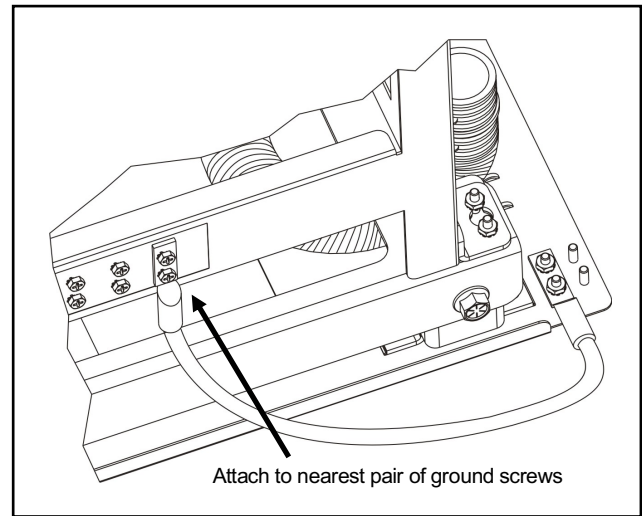

Figure 6. Ground strap attachment
- ① Locate the included ground strap and two of the #10-32 hex nuts. Referring to Figure 6, fasten one of strap's the dual-hole connectors to the **nearest pair of ground bus screws** on the wall rack, using screws supplied with the wall rack.
- ② Fasten the other end of the ground strap to the grounding studs on the SOA-5U frame with both hex nuts. Ground studs are located on both the top and bottom of the frame, accommodating either orientation of the wall rack ground bus. **Use the ground studs on the SOA-5U framed that are nearest to the ground bus of the wall rack.** This provides the proper amount of slack in the ground cable, allowing the swing-out mechanism to operate correctly.
- ③ Install a dual ground lug (customer provided) with holes on 5/8" centers to the adjacent ground studs on the SOA-5U, use two of the included #10-32 hex nuts to fasten the lug securely.
- ④ Connect a ground wire of appropriate gauge to the ground lug and attach the other end of the wire to a bonded ground point, per local procedures for network equipment.
- ① Use the SOA-5U tie-down points to hold equipment cables in place with tie-downs or other fasteners that are appropriate for the cable type.
- ② Fiber jumpers or pigtails can be fed through the corrugated flexible tube that is pre-attached to the SOA-5U frame.